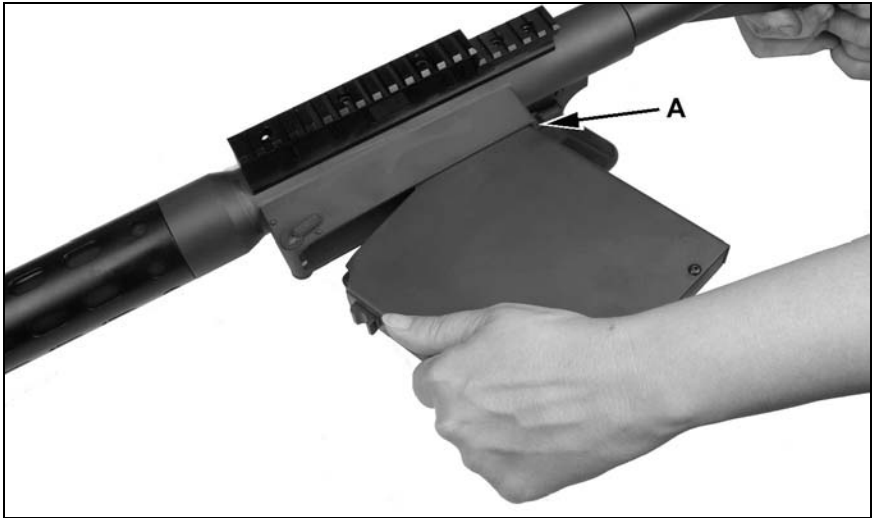

Figure 8
3. Insert tab on the rear of the magazine (A) into tab slot on the magazine well. See figure 8.